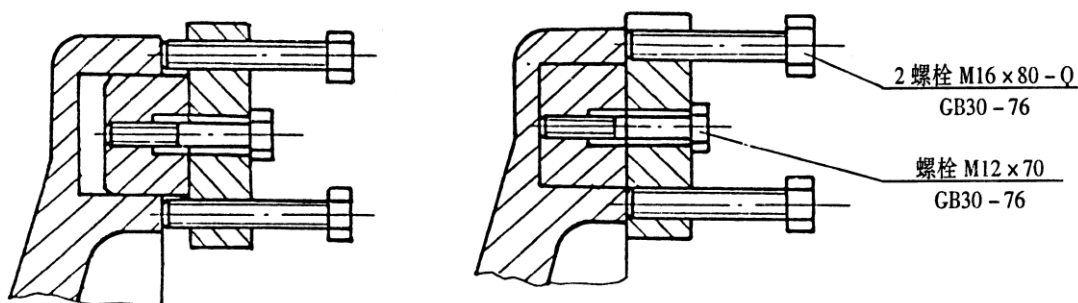

Fig.15 Ring die transmission key assemble and disassemble 环模
7.1.1 Strictly follow the lubrication diagram (See Figure 15) to inject lube to each lubrication point. Add high temperature resistant grease from the rear of the main shaft for the roller.